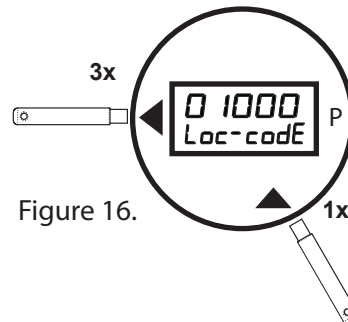

Figure 16.
- Pass the wand on the ◀ three times. The second digit from the left will flash (Figure 16).
- Pass the wand on the ▲ once. The display will increment from **0** to **1** (Figure 16).